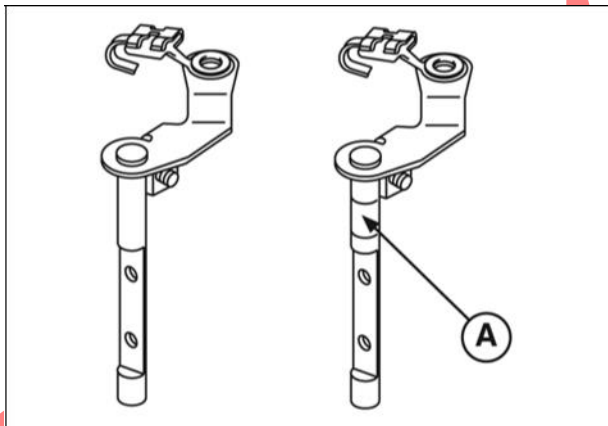

Figure 39
2. Inspect throttle shaft and choke shaft for wear (Figure 39).